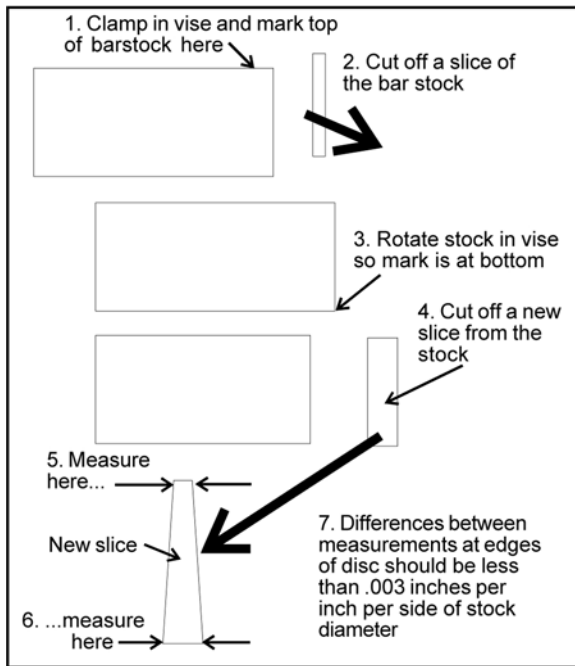

Figure 22
1. With bar stock securely clamped in the vise, make a cut through the bar stock. (See Figure 22.)